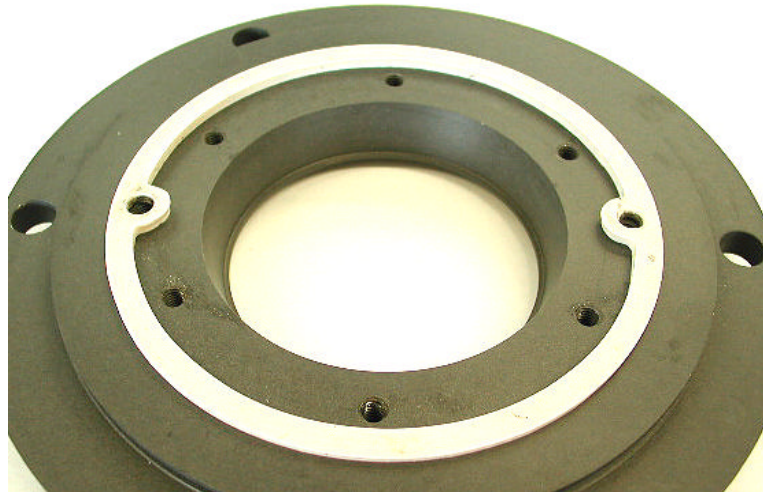

Fig. 11. Gasket in place on the inverted body.
The bottom cover gasket (4) locates into a recess in the prism body casting (1). See **Fig. 11**.